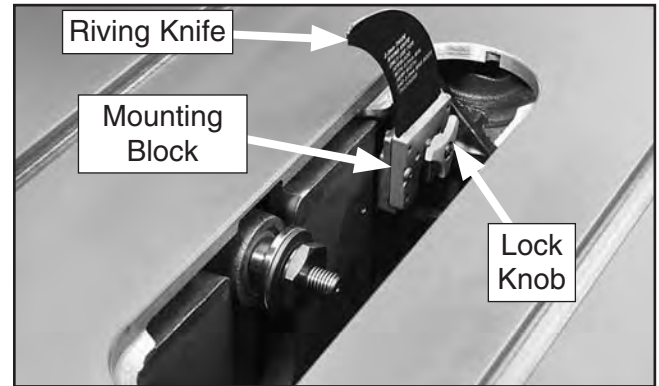

Figure 27. Riving knife installed.
24. Unthread the lock knob on the riving knife/blade guard mounting block (**Figure 27**) several turns. Push the riving knife away from the knob, then lift the riving knife up to remove it.